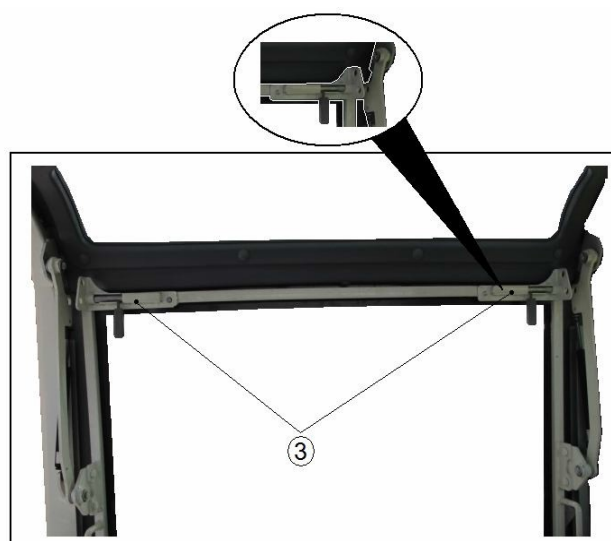

Fig 2-24
4. Screw up the two locking pins to make sure its safe. (Fig 2-24).